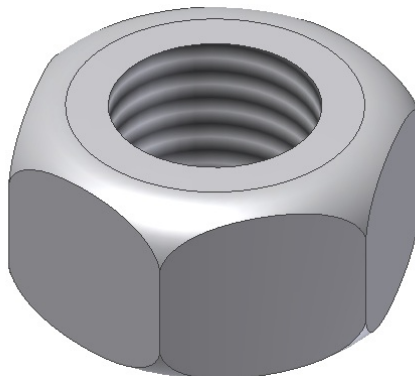

Figure 8-158 Final model of Nut
- Finally, create internal threads using the **Thread** tool, refer to Figure 8-158.
6. Choose **OK** to exit the **Thread** dialog box and create threads. The final model after creating threads is shown in Figure 8-158.